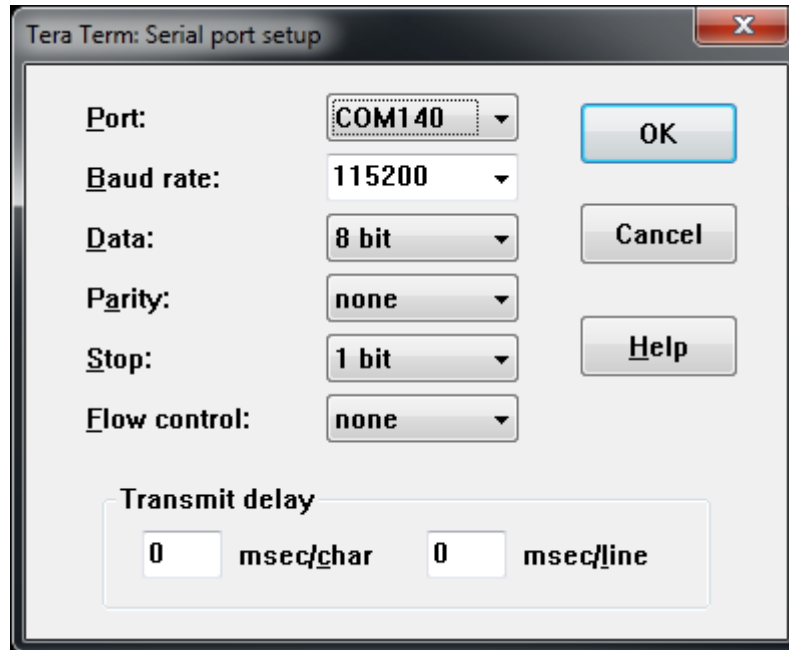

Figure 22. Serial port setup
- 4) Set the **Baud rate**, **Data**, **Parity**, **Stop** and **Flow control** parameters (see Figure 22). Leave the **Transmit delay** fields with default values (0), and click **OK**.